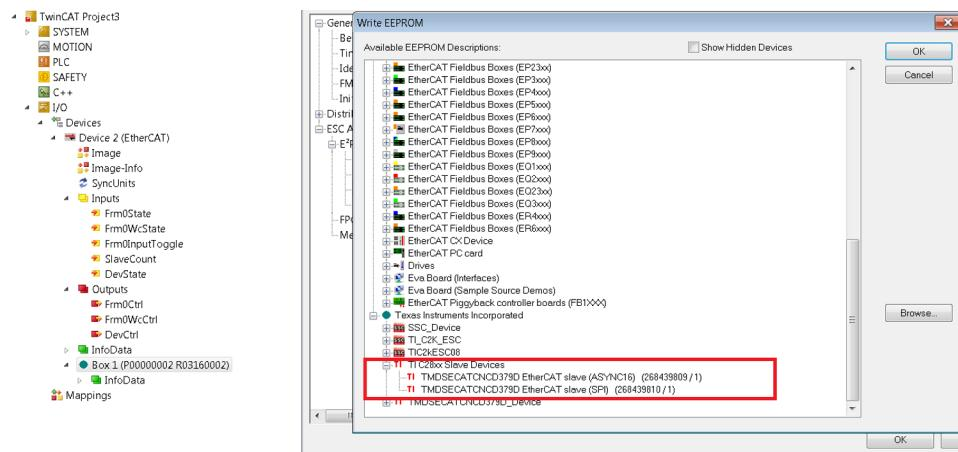

Figure 27. Program EEPROM
4. Program the EEPROM with the ESI files, as shown in Figure 27. Choose the appropriate ESI file according to your PDI selection.